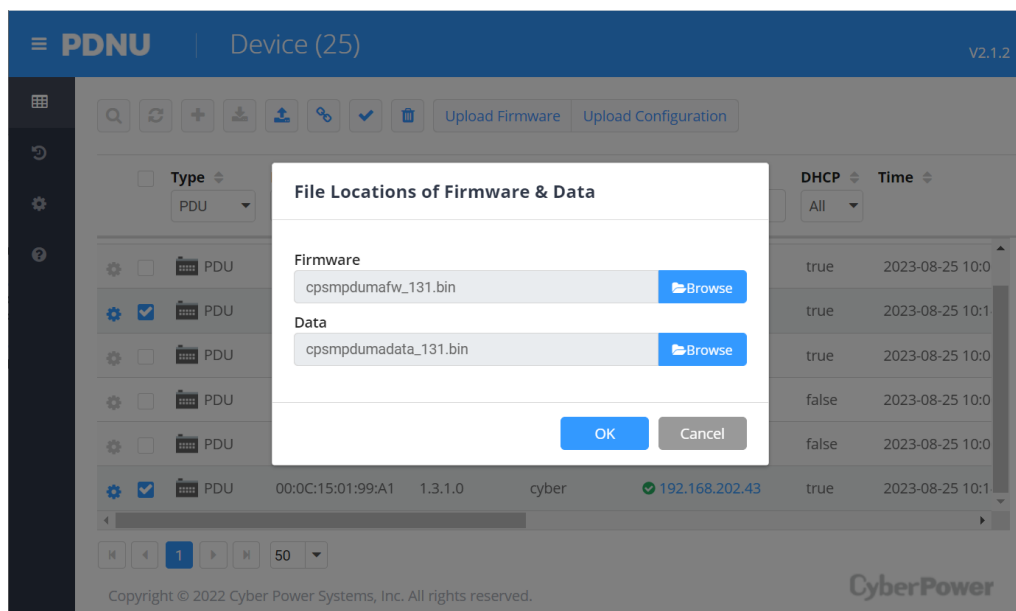

Figure 4.
7. Click **Browse** to locate and select the firmware and data file to be updated and then click **OK** (Shown in Figure 4).